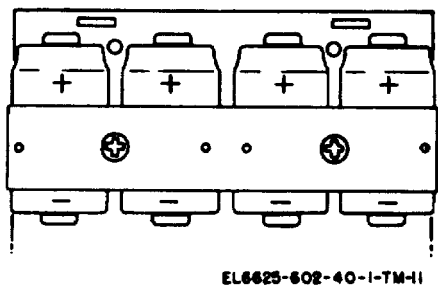

Figure 4-1. Generator, Signal SG-54SB/U battery diagram.
4-3. Generator, Signal SG-543B/U Battery Replacement (fig. 4-1)*a. Removal of Old Batteries.*
(1) Replace the new batteries as shown in figure 4-1.
(2) Replace the battery retainer and plastic separators and secure with the two screws.
(3) Replace the power supply (para 4-2).
(4) Plug in the power cord at the rear of the unit.
(5) Replace the signal generator in the carrying case.